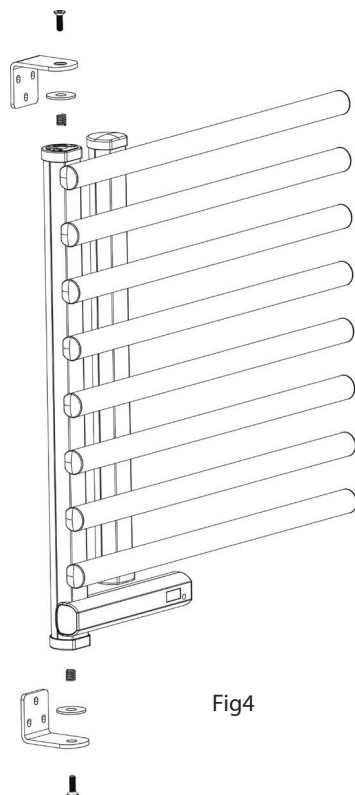

Fig4
4. Place the spring on the product as shown in the figure, then fasten it with a 6x35mm screw. Operate the upper and lower parts in the same way. See Fig 4